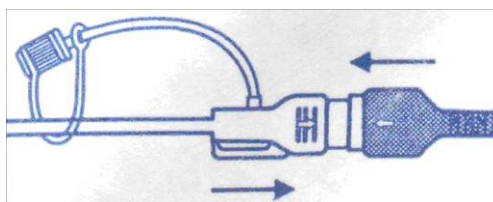

Figure 7-3: Connect catheter to pressure cable
- 2) Connect the IUPC to the IUP cable. (See Figure 7-3)